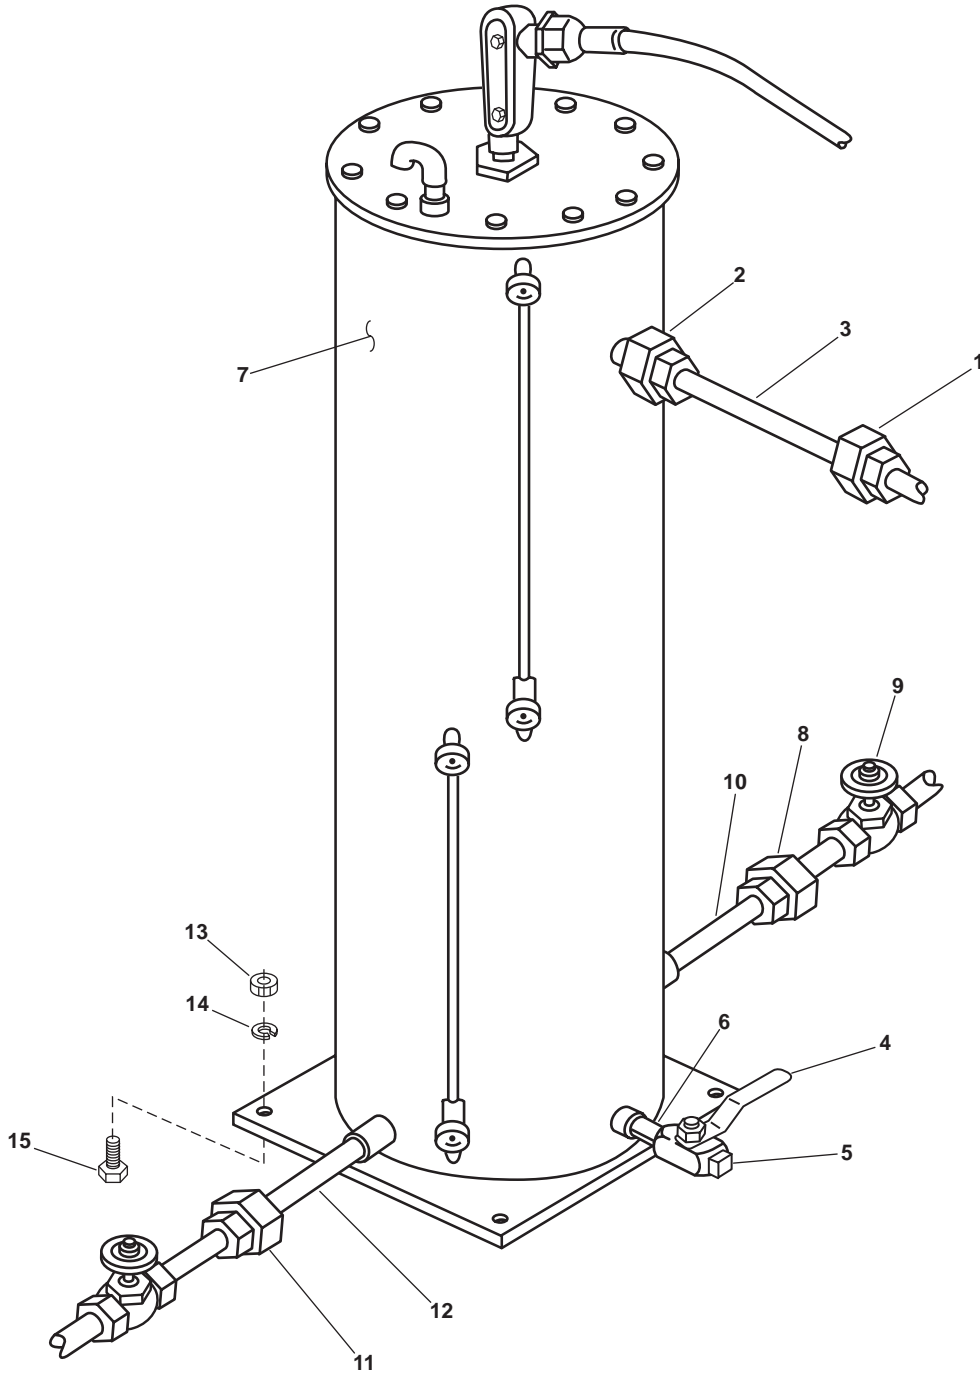

Figure 2. MSD Wet Well
6. Place a suitable drain pan under the chlorinator discharge coupling (figure 2, item 1).
7. Loosen the chlorinator discharge coupling (figure 2, item 1) and allow any effluent to drain into the suitable drain pan.
8. Place the suitable drain pan under the wet well inlet coupling (figure 2, item 2).
9. Loosen the wet well inlet coupling (figure 2, item 2) and allow any effluent to drain into the suitable drain pan.
10. Remove the pipe (figure 2, item 3) from the wet well inlet coupling (figure 2, item 2) and the chlorinator discharge coupling (figure 2, item 1).
11. Place the suitable drain pan under valve MSD-11 WET WELL SAMPLE (figure 2, item 4).
12. Remove the pipe plug (figure 2, item 5) from valve MSD-11 WET WELL SAMPLE (figure 2, item 4).
13. OPEN valve MSD-11 WET WELL SAMPLE (figure 2, item 4) and allow any effluent to drain into the suitable drain pan.
14. Remove valve MSD-11 WET WELL SAMPLE (figure 2, item 4) and the piping (figure 2, item 6) from the wet well (figure 2, item 7).
15. Place the suitable drain pan under the wet well discharge coupling (figure 2, item 8).
16. Verify that valve MSD-10 WET WELL DISCHARGE (figure 2, item 9) is CLOSED.
17. Loosen the wet well discharge coupling (figure 2, item 8) and allow any effluent to drain into the suitable drain pan.
18. Remove the pipe (figure 2, item 10) from the wet well (figure 2, item 7) and the wet well discharge coupling (figure 2, item 8).
19. Place the suitable drain pan under the wet well drain to holding tank coupling (figure 2, item 11).
20. Loosen the wet well drain to holding tank coupling (figure 2, item 11) and allow any effluent to drain into the suitable drain pan.
21. Remove the pipe (figure 2, item 12) from wet well drain to holding tank coupling (figure 2, item 11) and the wet well (figure 2, item 7).
22. Remove the four nuts (figure 2, item 13), the four lockwashers (figure 1, item 14), and the four bolts (figure 2, item 15) from the wet well (figure 2, item 7). Discard the lockwashers.
23. Remove the wet well (figure 2, item 7) from its foundation.
1. Install the wet well (figure 2, item 7) on its foundation.
2. Install the four bolts (figure 2, item 15), the four nuts (figure 2, item 13) and the four new lockwashers (figure 2, item 14) that secure the wet well (figure 2, item 7).
3. Clean the male threads of the piping (figure 2, items 3, 6, 10, and 12) using a wire brush.